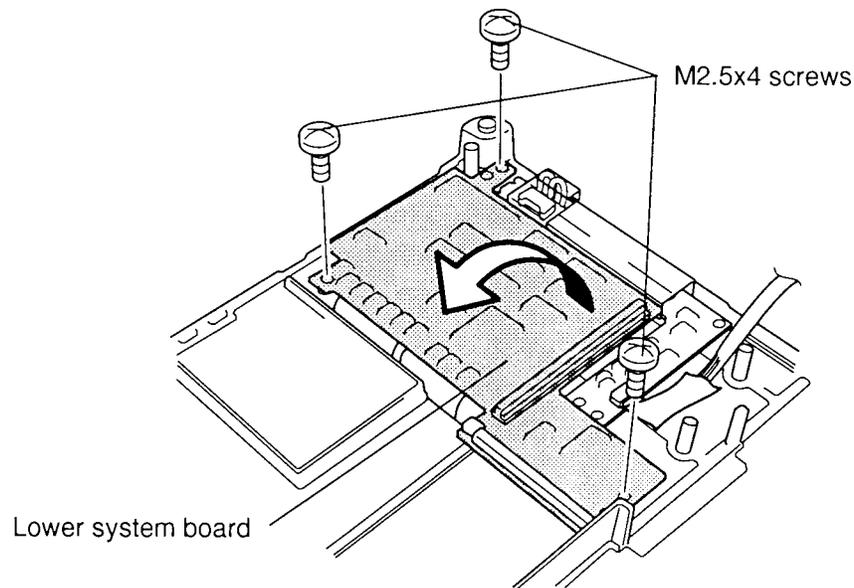

Figure 4-12 Removing the T200 Lower System Board
To remove the T200's lower system board, follow the steps below and refer to Figures 4-12 and 4-13.
3. Remove the insulator, then remove the **three M2.5x4 screws** securing the **lower system board** (Figure 4-12).
To install the T200's lower system board, follow the steps below and refer to Figures 4-12 and 4-13.
3. Place the lower system board on the base frame (Figure 4-12).
4. Secure the **three M2.5x4 screws** on the lower system board (Figure 4-12), then replace the insulator.